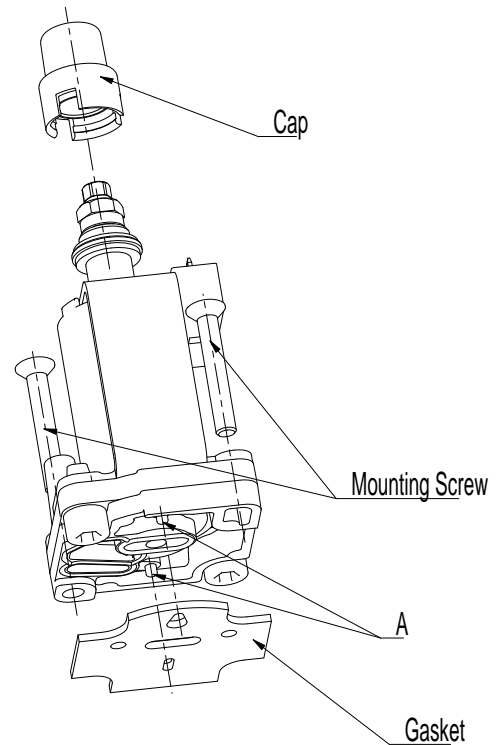

Fig. 3. Moduplus® Tradeline parts
Mounting Moduplus® Tradeline on gas valve. (see fig 3)
- Remove old Moduplus® regulator and discard gasket. Place new gasket at the bottom side of Moduplus®. Orientation of the gasket must be as indicated in figure 3! Push gasket over the small bosses (A), so that the bosses show fully through the gasket.